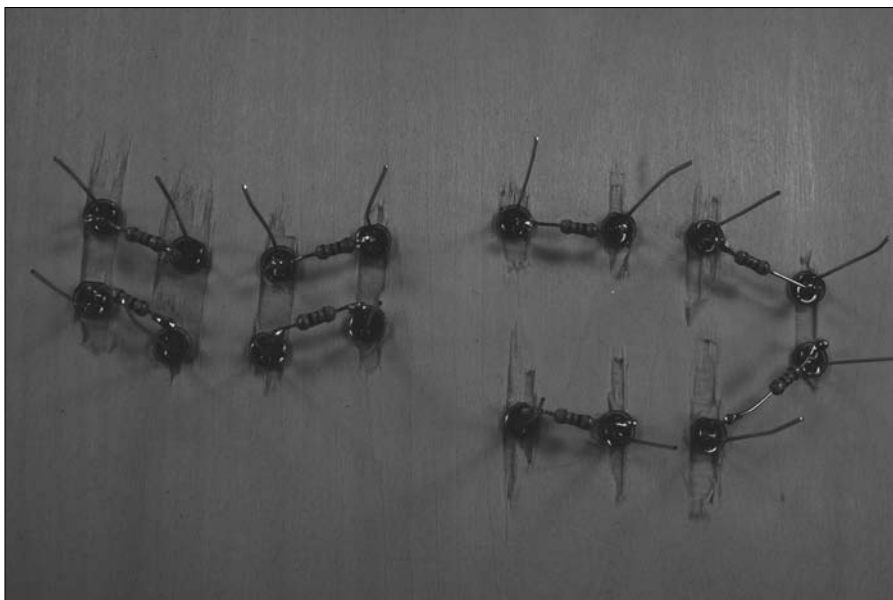

Figure 5-16:
7. Attach resistors between the pairs of LEDs, as shown in Figure 5-16.
Clip only the leads to which you have soldered resistors. Figure 5-16 shows how the LEDs and resistors should look at this point. Figure 5-17 shows a close up to help you see the soldering more clearly.